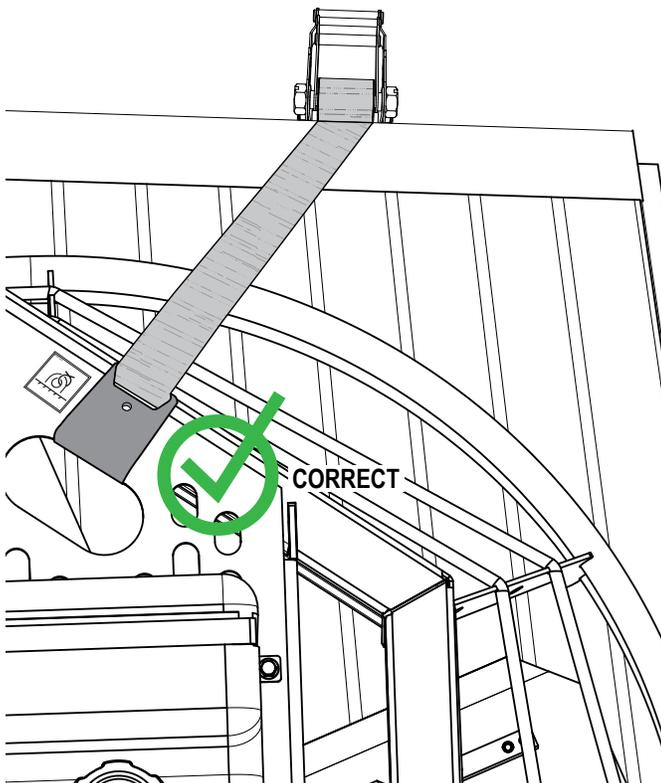
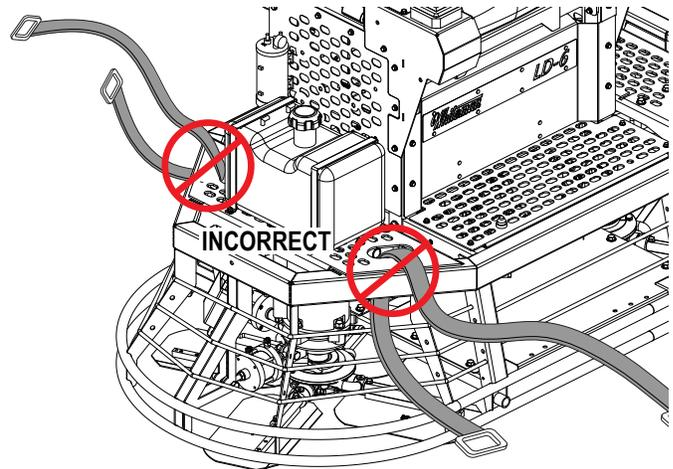

Figure 5. Tie-Down Method (Correct)
Figure 6. Tie-Down Method (Incorrect)
2. Attach suitable tie-down straps to the locations marked by the tie-down symbols. Be sure to connect the tie-down strap hooks directly to the trowel as shown in Figure 5. **DO NOT** wrap the tie-downs around the frame as shown in Figure 6.